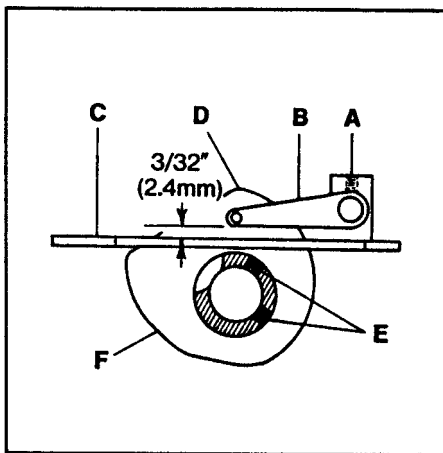

FIG. 35
Loosen screw (A, Fig. 35) and set the lower edge of cover thread take-up eyelet (B) so its 3/32" (2.4mm) above the surface of cast-off plate (C). Tighten screw (A). As the cover thread hook moves to the left over the cover thread and the needle bar starts to rise, the cover thread must "cast-off" from the high point of take-up (D). Loosen screws (E) and adjust take-up (F) accordingly. make sure that take-up (F) is centered in cast-off plate slot (C) and take-up eyelet (B) is centered to take-up (F). Tighten screws (E).